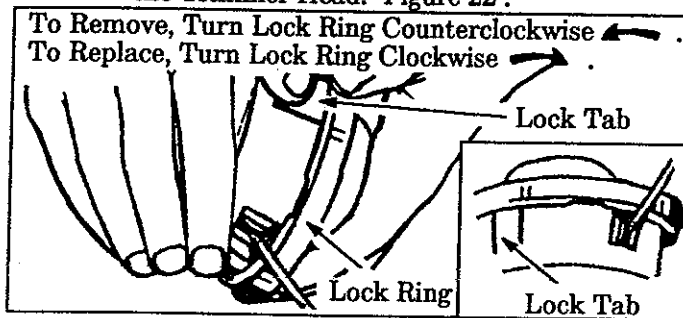

Figure 18
- a. Hold the Trimmer Head as shown in Figure 18. Press the Lock Tab and turn Lock Ring as shown in Figure 18.
- f. Align the Lock Ring over the three Catches on the Hub. Push the Lock Ring down on the Hub and turn as shown in Figure 18.